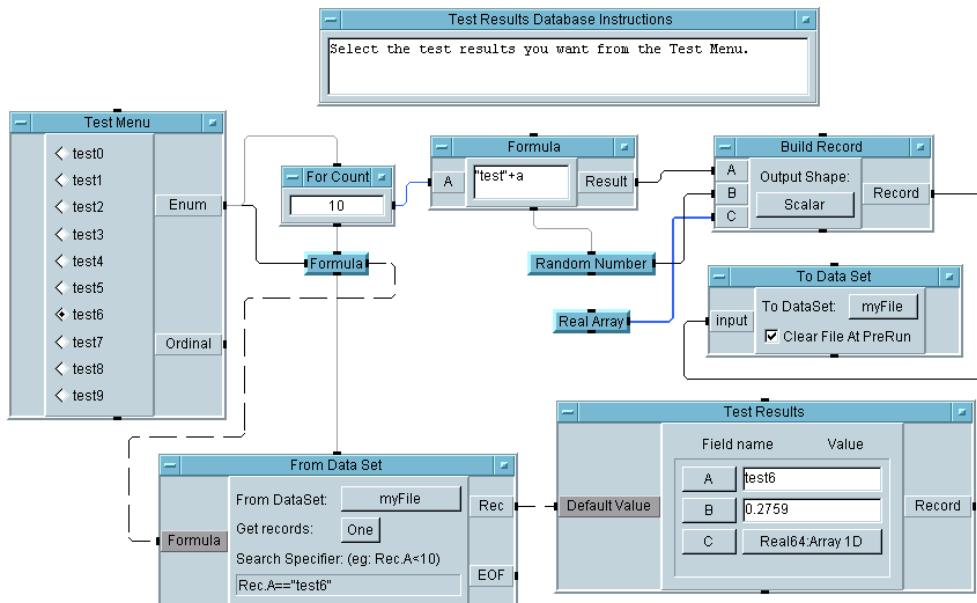

Figure 5-18. Adding a Menu to the Search Operation
13. The program should look like Figure 5-18. Run the program a few times to verify that it works. Since the Test Menu object has AutoExecute turned on, make a menu selection to run the program.